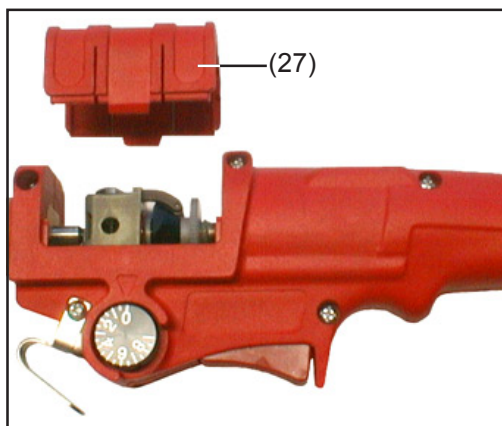

Fig.42 Removing the cover
- Screw the knurled nut (1) in Position (A) - see Fig.42
- Screw the knurled nut (1) in Position (B) - see Fig.42